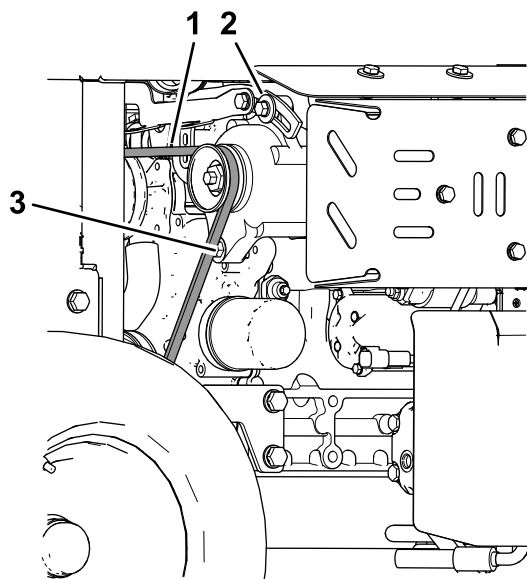

Figure 76
4. Loosen the alternator pivot bolt and lock bolt (Figure 76).
6. Tighten the alternator lock bolt (Figure 76).
7. Tighten the alternator pivot bolt (Figure 76).